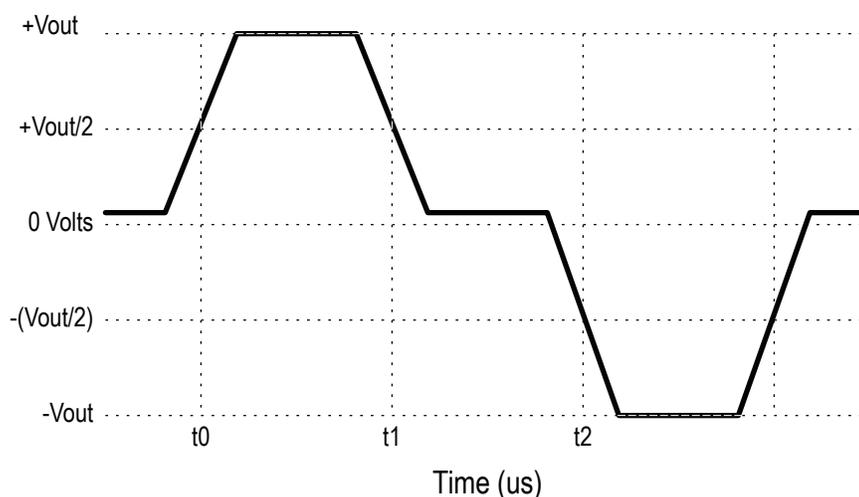

Figure 36 Bottom Threshold
Figure 36 illustrates the effects of choosing $-(+V_{out}/2)$ as the bottom crossing threshold. The reference waveform is redrawn with exaggerated baseline wander. Note that the choice of $-(+V_{out}/2)$ as the bottom threshold results in worse duty cycle distortion value than if $-V_{out}/2$ were chosen as the negative threshold.
- 2 Ensure that the DUT is sending the MLT-3 encoded 01010101 NRZ bit sequence as shown in Figure 36.
Figure 36 illustrates the effects of choosing $-(+V_{out})/2$ as the bottom crossing threshold. The reference waveform is redrawn with exaggerated baseline wander. Note that the choice of $-(+V_{out})/2$ as the bottom threshold causes a worst peak-to-peak duty cycle distortion value than if $-V_{out}/2$ were chosen as the negative threshold.
As indicated in Figure 36, the 4 successive 50% crossing times are measured. These are named t_0 , t_1 , t_2 , and t_3 respectively. The specification states that the deviations of the 50% crossing times from a best fit grid of 16 ns shall not exceed ± 250 ps. We validate this specification in terms of the peak-to-peak duty cycle distortion requirement of 500 ps. This is done as follows: